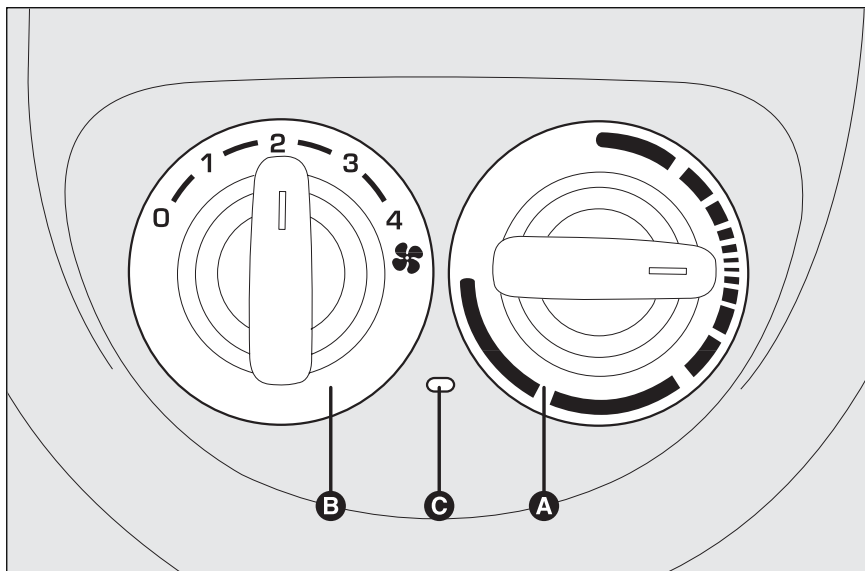
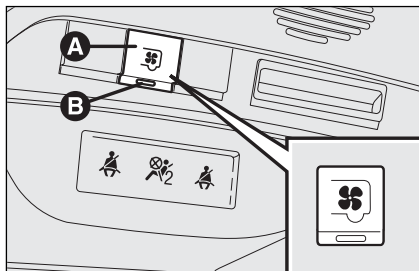

fig. 51
fig. 52
CONTROLS fig. 51
Press button **A-fig. 52** to switch the system on.
Switching on is indicated by button led **B-fig. 52** and by led **C-fig. 51** between controls.
Press button **A-fig. 52** again to switch the system off (the two leds will turn off).
- ☐ turn the climate control on by pressing button **A-fig. 52**; the button led **B** will turn on;